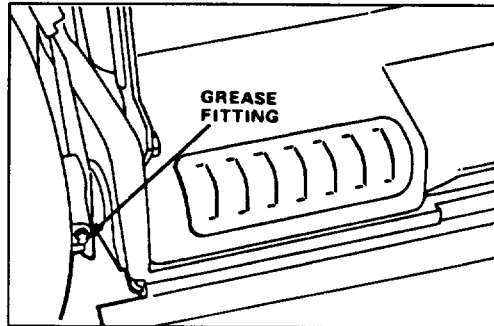

Figure 19
2. Move rear wheel height-of-cut levers to "2" setting. Wipe grease fittings with clean rag (Fig. 19). Install grease gun onto fitting and gently apply two or three pumps of #2 Multi-Purpose Lithium Base Grease.